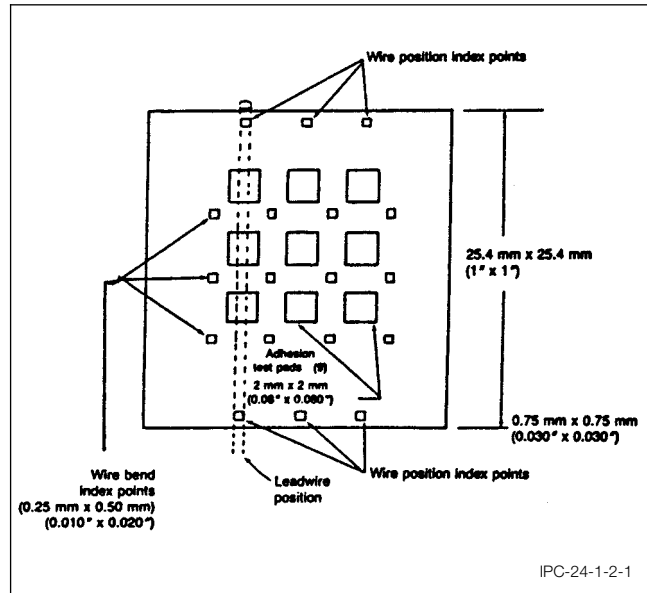

Figure 1
5.1.1 Soldering the Lead Wire A lead wire is placed across the surface of each column of conductor lands as shown in Figure 1. The end of the wire should be bent around the edge of the substrate to hold the wire in place temporarily until the solder boards are formed.